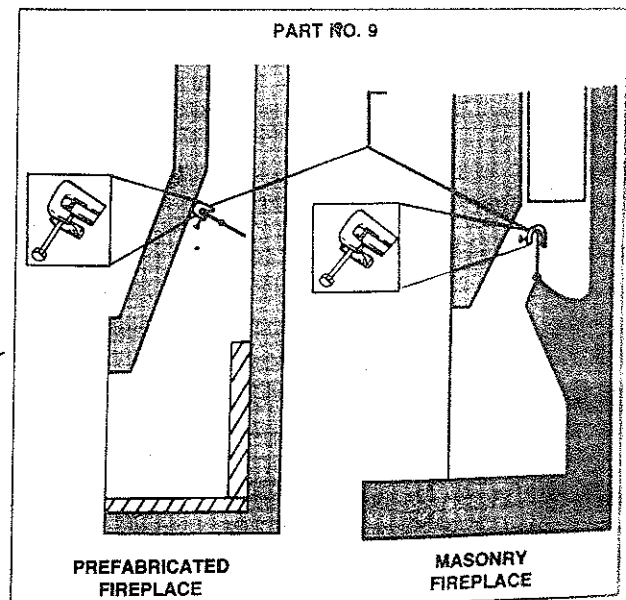

Figure 2. Damper stop clamp.
B. Open fireplace damper fully and install Damper Stop Clamp with 1/4x2" set screw (Part #14). This clamp is designed to prevent accidental closure of the damper while in use. (See Figure 2.) Should the Damper Stop Clamp supplied not fit, a permanent damper stop clamp must be installed that will keep the damper open at a distance of not less than 1 1/2".